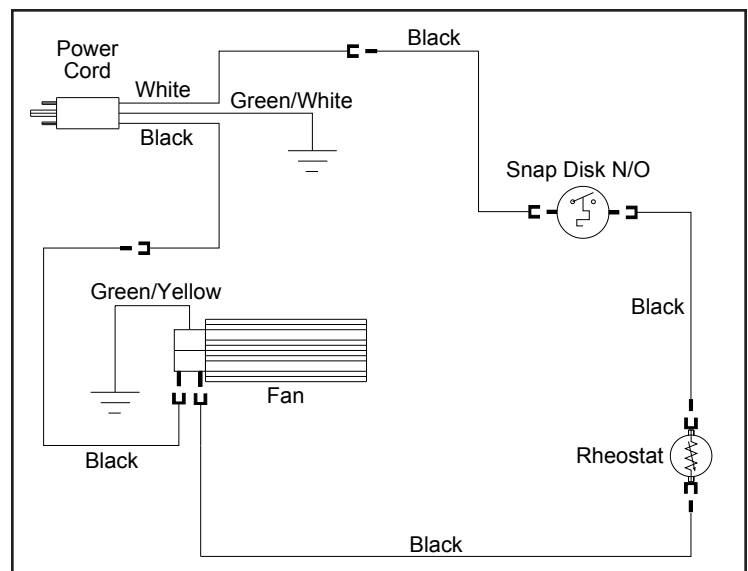

Figure 35: Wiring Diagram for Electric Fan.
4. Open the pedestal door and remove the four (4) T-20 screws holding the Control Panel in place.
5. Fit the Fan Unit into the cabinet being careful to work around the gas and pilot lines. The fan will fit up behind the gas valve. With an extension driver, fasten the Fan Unit in place with four (4) T-20 screws provided.
8. Plug in all the electrical connections as indicated in Figure 35. This includes the Fan Controller, Temperature sensor and Fan Unit.